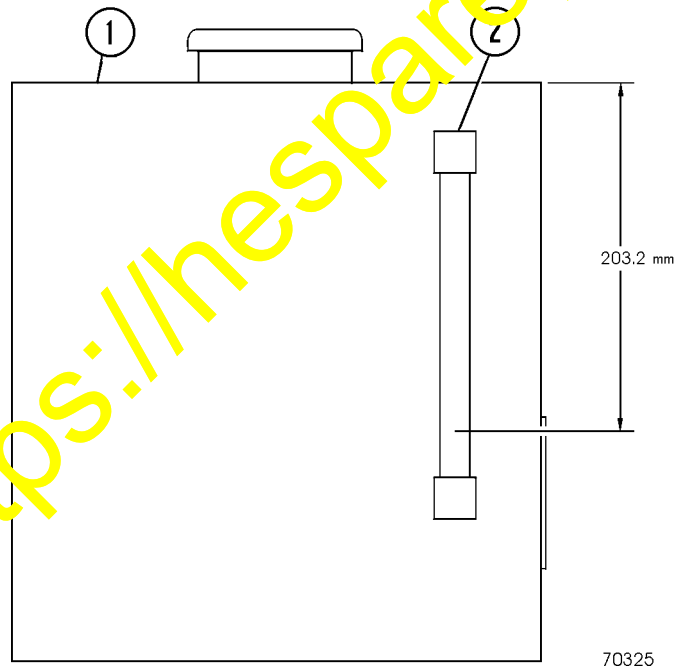

FIGURE 1. 830E RADIATOR
On 830E trucks (serial number suffix AFE32-A through AFE32-FA and AFE50-A through AFE50-W), the sight gauge should be modified so the proper radiator filling height will be correct when filled using the procedure above. Refer to page 2 (Figure 1) for rework instructions.
2. Measure and mark at dimension shown in Figure 1.